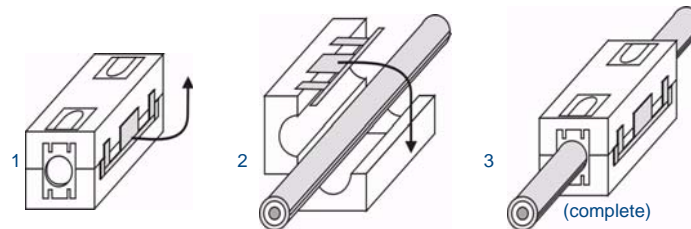

FIG. 6 Installing the CAT5 Suppression Ferrite
5. Clip the included CAT5 Suppression Ferrite around the Ethernet cable (FIG. 6), 2 to 3 inches (51-76 mm) from the NXB-CCG's Ethernet port.